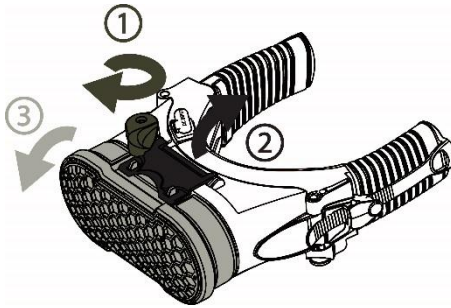

Figure 20 - Removing HE Filter
- Turn the respirator upside down. Using your thumb, move the Latch Lock out of the way and then pull the Latch firmly away from the filter. The filter can now be removed. See Figure 20.